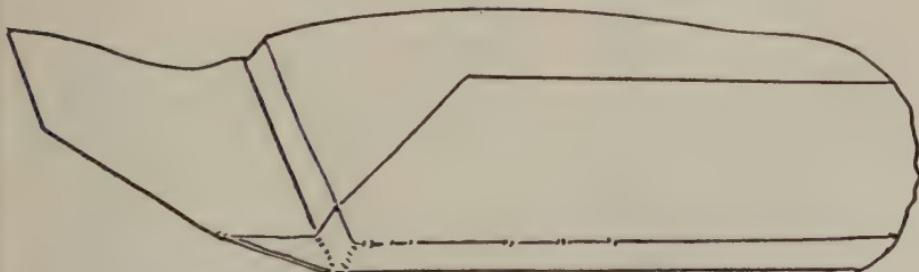

FIG. 73—NICKING-IN COVER TURN-INS
- Now "nick-in" the four paper corners like Fig. 73 and turn the end flaps over onto board like the two long edges.